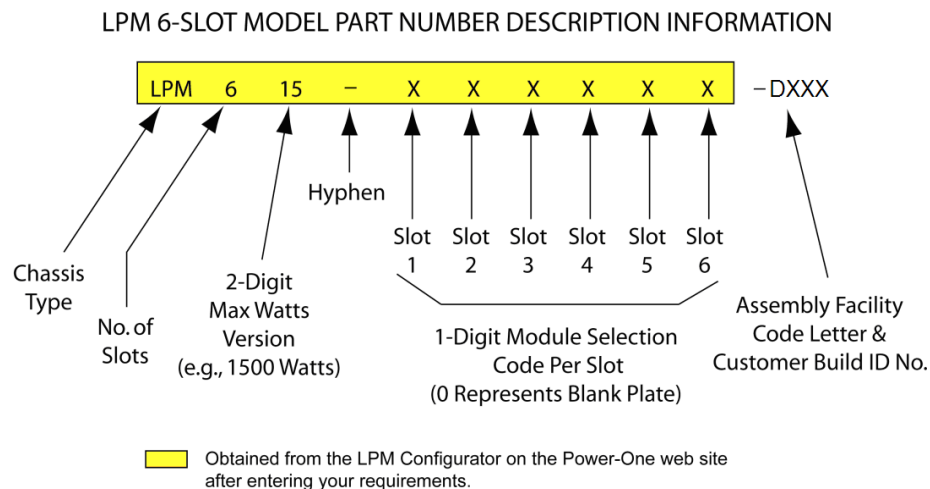

Figure 2. LPM 6-Slot Part Number Structure
NOTE: To determine your desired power supply's part number, please refer to *Figure 2* for a detailed part number description. Use the LPM615 Product Configurator located in the Modular Section on our web site, or use our contacts page at <http://www.power-one.com/chassis-mount/contacts.html> to locate a contact or distributor for further assistance.
- LPM615...Low Profile Modular 6-slot, 1500W, with single-phase AC input. (see *Figure 2*)